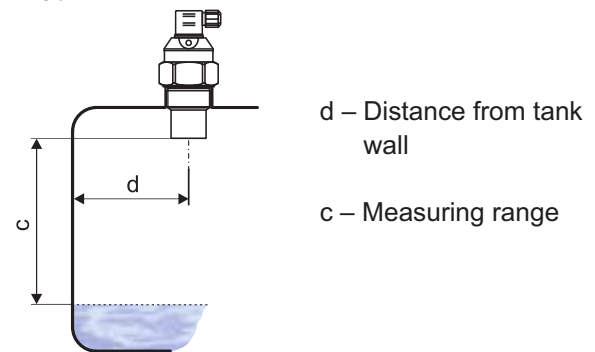

Fig. 3: Installation distance from the tank wall
- Minimum **dimension parameters** when installing into a lid or a ceiling of a tank are listed in Fig. 3.